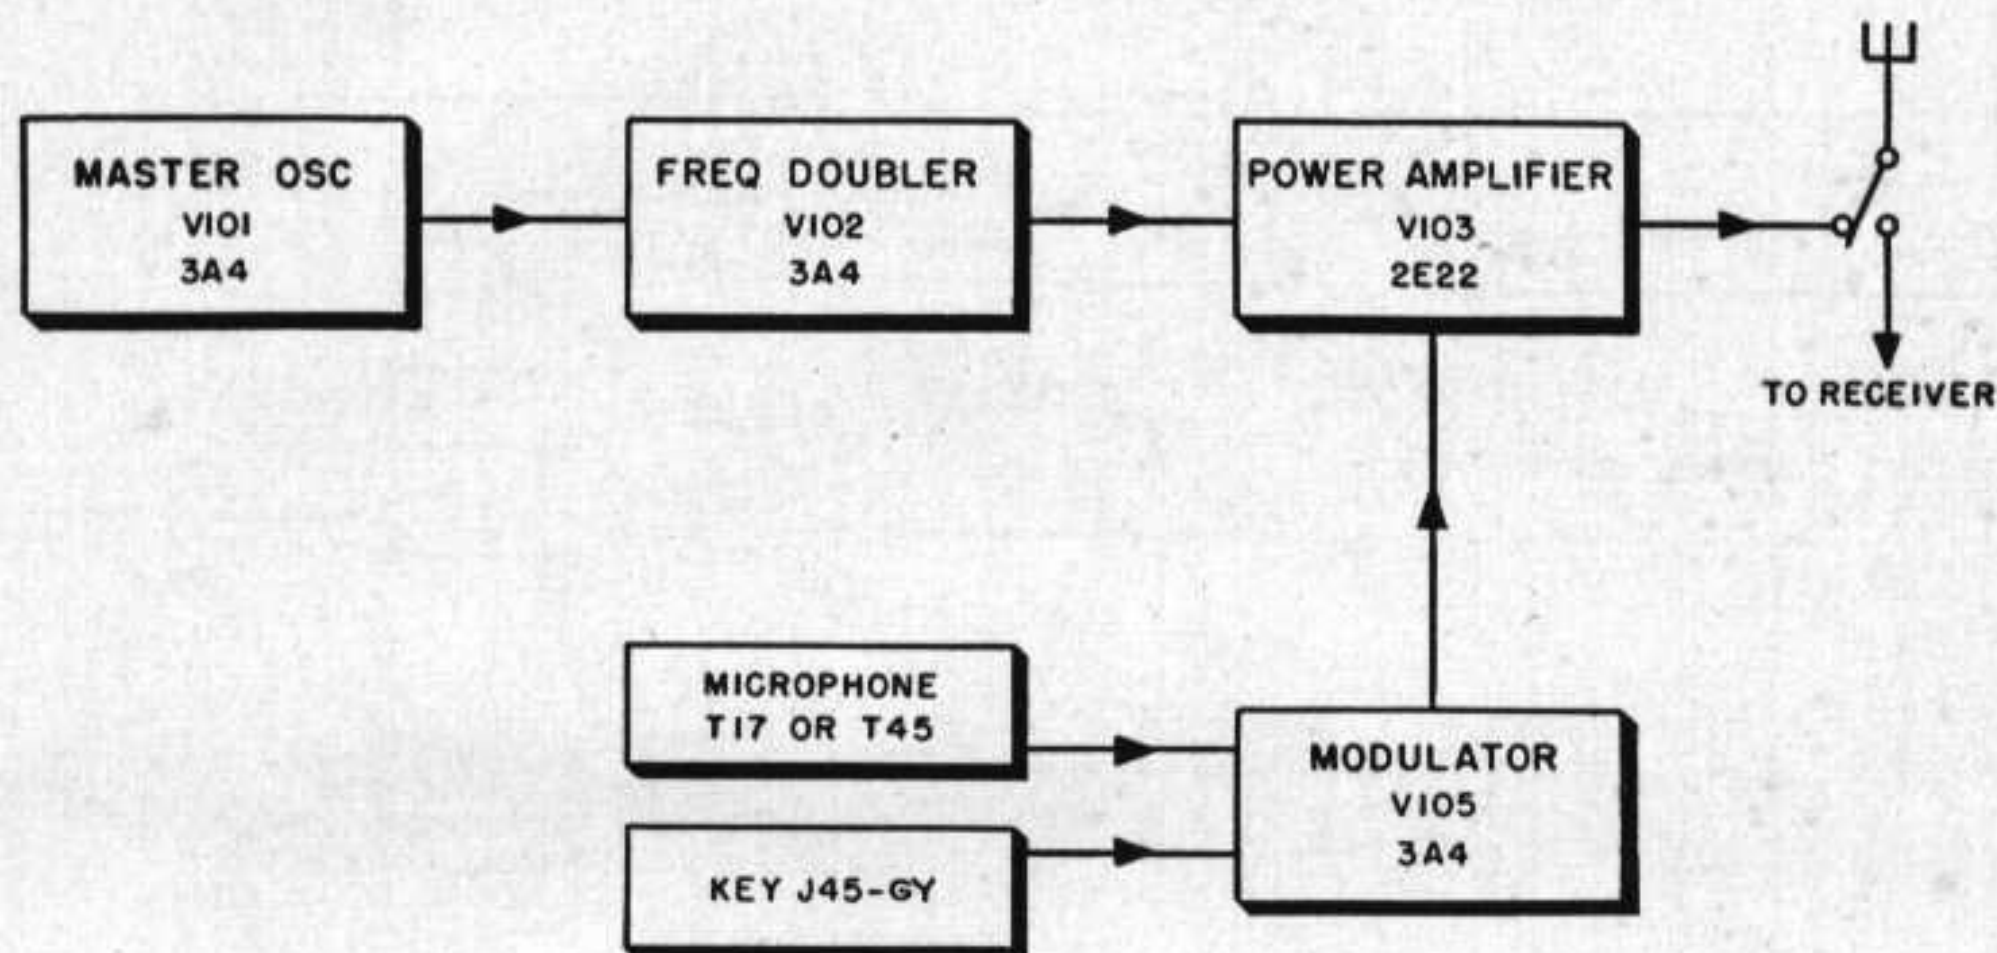

Figure 66. Block diagram of transmitter section of receiver-transmitter RT-77/GRC-9-GY.
89. Block Diagram (fig. 66)
a. GENERAL. The transmitter section of Receiver-Transmitter RT-77/GRC-9-GY consists of a master oscillator, frequency doubler, power amplifier, and modulator circuit as shown in the block diagram (fig. 66). The circuit is designed to provide c-w, mcw, and voice modulated signals over a frequency range of 2.0 to 12.0 mc. As in the case of the receiver, the frequency range is covered in three bands, 2.0 to 3.6 mc, 3.6 to 6.6 mc, and 6.6 to 12.0 mc.
b. BLOCK DIAGRAM (fig. 66). The block diagram shows a master oscillator, which can be either self-excited or crystal-controlled, to supply an r-f signal voltage to the grid of the doubler stage whose plate circuit is tuned to the second harmonic of the input signal. The output of this stage is fed to the grid of the power amplifier stage at a sufficient power level to drive the power amplifier as a Class C amplifier. The modulator circuit supplies the audio power necessary to suppress grid modulate the power amplifier during phone and mcw operation. The